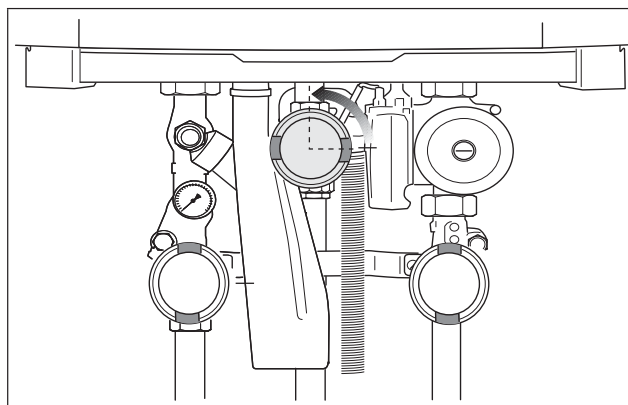

fig. 87 Opening the gas valve
- Slowly open the gas valve by pushing on the gas valve and turning it anticlockwise through $\frac{1}{4}$ rotation (fig. 87). The gas valve is open when it is in the vertical position.
- Slowly open the gas valve by pushing on the gas valve and turning it $\frac{1}{4}$ rotation in an anticlockwise direction (fig. 87, page 61). The gas valve is open when it is in the vertical position.
- Slowly open the gas valve by pushing on the gas valve and turning it $\frac{1}{4}$ rotation in an anticlockwise direction (fig. 87).